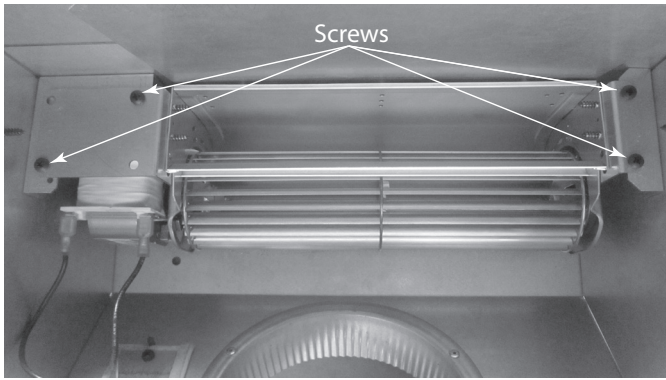

Figure 8
- Secure the fan to the mounting brackets with (4) screws provided. See Figure 8.